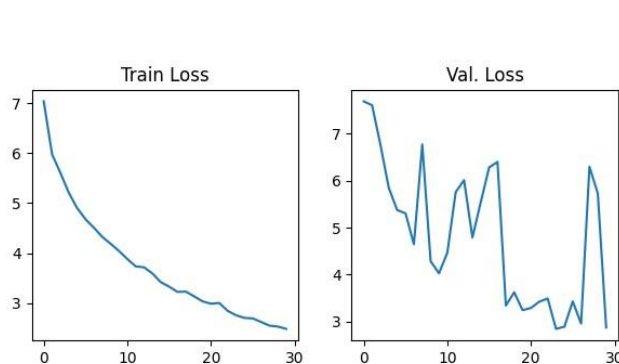

Figure 3: Example loss curves.
- (a) Run the training script with the command `$python trainer.py`. It should take around 5 minutes to train for 30 epochs on your CPU (if you have a GPU, it will automatically use it). While it is training, you can monitor the loss curves by viewing the image file 'loss curves.png' and see predictions by viewing 'predictions.png'. It is expected that the validation loss curve will be very noisy (+1 Extra Credit point if you can explain why!) so only the best performing weights are saved. The data in Figures 3,4 are approximately what you should see (achieving a validation loss of around 3), but the code is not perfectly repeatable.